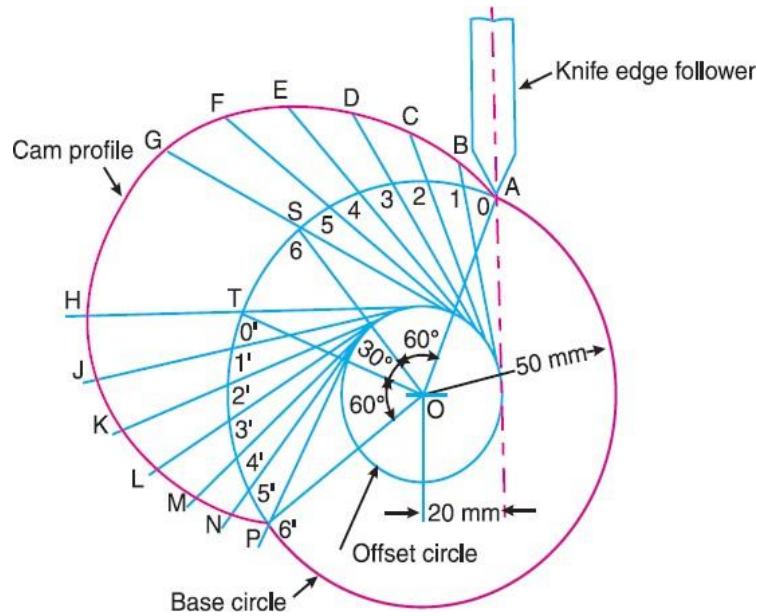

Figure 3
The profile of the cam when the axis of the follower is offset from the axis of the cam shaft, as shown in Figure 3, is drawn as discussed in the following steps :
6. Now from the points 1, 2, 3 ... etc. and $0', 1', 2', 3' ...$ etc. on the base circle, draw tangents to the offset circle and produce these tangents beyond the base circle as shown in Figure 3.